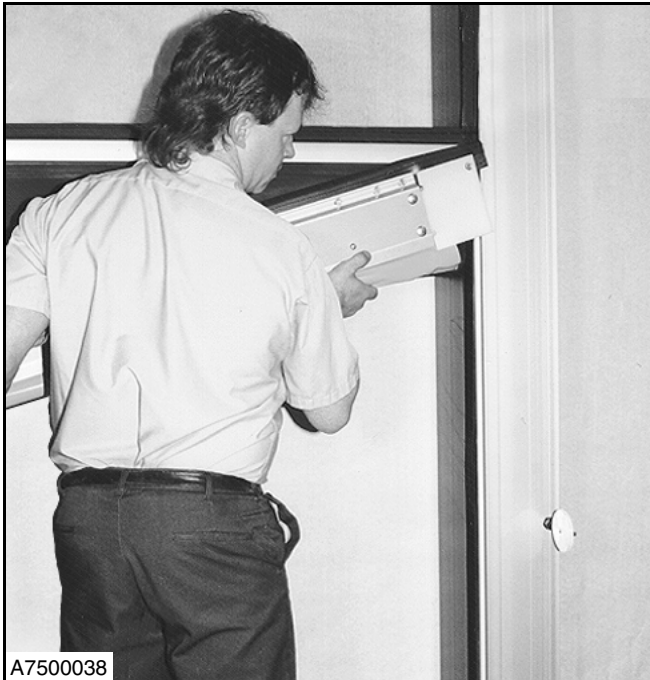

Figure 3
1. Position the breakaway tabs on one end of the bottom bar assembly in the side column channel. Lift the other end of the bottom bar and position the breakaway tabs in the side column channel. (See Figure 3.)